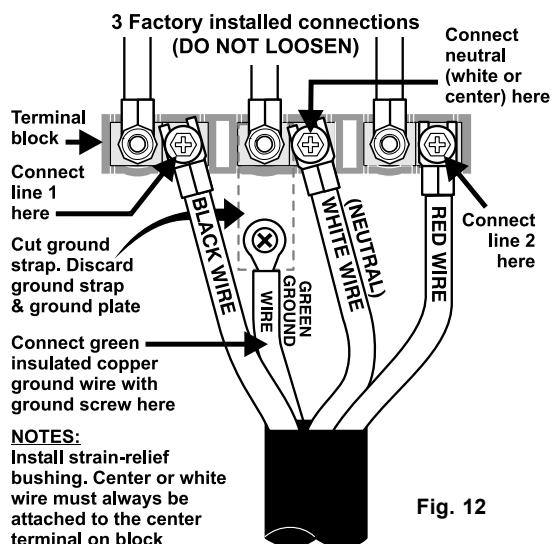

Fig. 12
(4-Wire Connection Instructions - Refer to Fig.12)
- Connect the ground wire (Green) lead with the eyelet to the frame of the appliance with the ground screw using the same hole in the frame where the ground screw was originally installed (See Fig. 12).